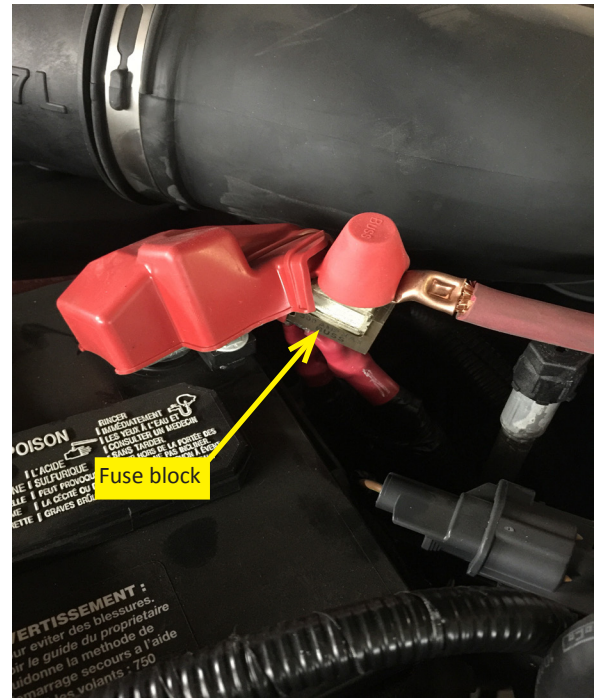

Figure 7
- 7 Attach the fuse block (**ITEM 8**) to the positive battery post. Thread the red rubber boot (**ITEM 3**) at one end of the 1 gauge red cable (**ITEM 9**), connect the cable end to the open large stud on solenoid and route the cable through the knockout to the vehicle battery and connect it to the fuse block. Figures 7 & 8